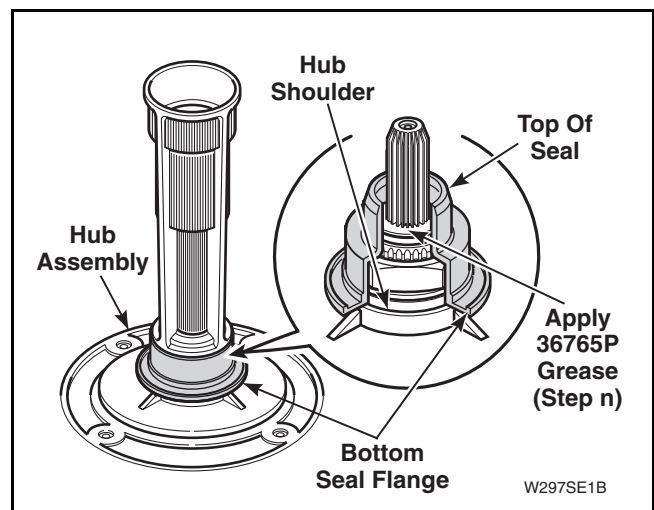

Figure 19
transmission output shaft and seal. Refer to *Figure 19*.
- p. Turn the No. 293P4 Seal Tool upside-down and place the small end over transmission output shaft and onto the seal. Refer to *Figure 19*.
- q. Push down on tool with a quick motion until it bottoms out and the top of seal is fully seated. Refer to *Figure 19*.